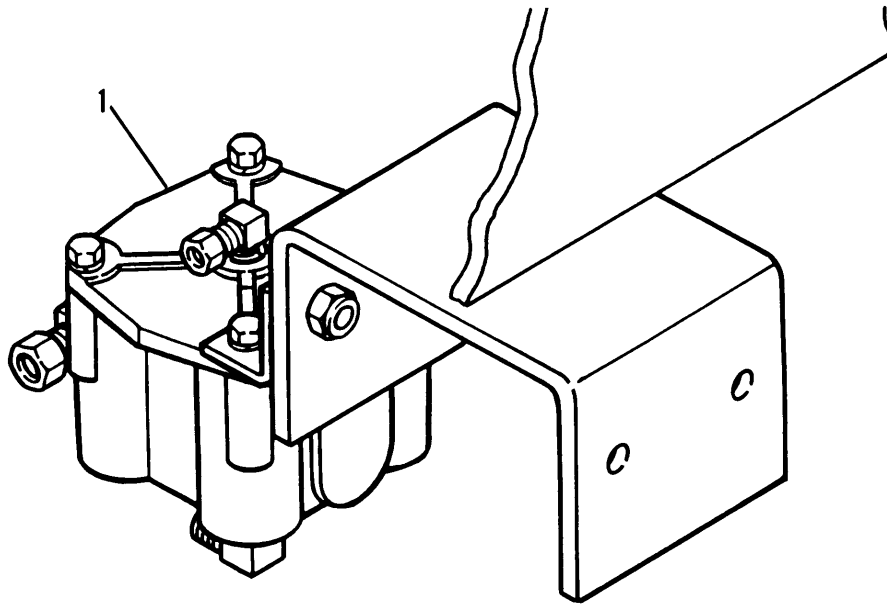

Figure 4-24. Emergency Relay Valve (M871A1)
i. Emergency Relay Valve. The emergency relay valve (1, fig. 4-24) is mounted on the semitrailer frame. The emergency relay valve directly controls the service brakes on the semitrailer. It speeds brake action by releasing air from the air reservoirs, on the semitrailer, directly to the brake chambers. This valve controls the flow of air to and from the semitrailer air reservoirs and automatically applies the brakes if the semitrailer breaks away from the towing vehicle or if there is a serious leak in the emergency air line.